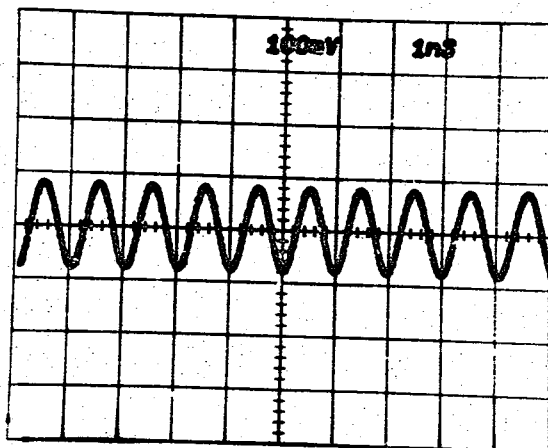

Fig. 7-4. 1 GHz SYNC.
c. Adjust the 7S14 TRIGGERING LEVEL control to synchronize on a 1 ns sine wave (see Fig. 7-4).
- d. Remove the test probe, release the 7A13 DISPLAY button, and check that it is possible to trigger a waveform (see Fig. 7-4) using the 7S14 LEVEL control.